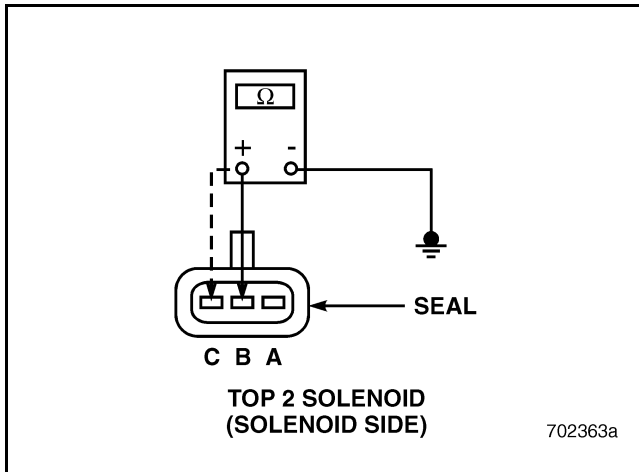

Figure 485
2. Check for continuity between either pin B or C on the solenoid side of the Top 2 solenoid valve connector and a good ground (see Figure 485).